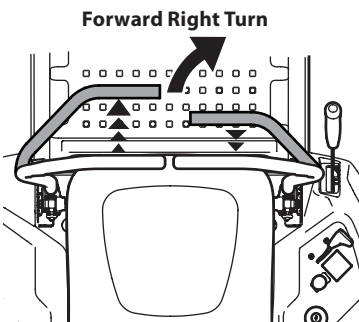

Figure 30
2. To turn to the right, move the right drive control lever rearward of the left lever. See Figure 30.